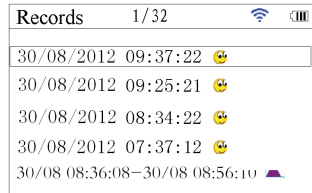

Figure 3-11 Record List
1. Select "Review" on main menu screen, then press "OK" button, the device enters record list screen as shown in Figure 3-11